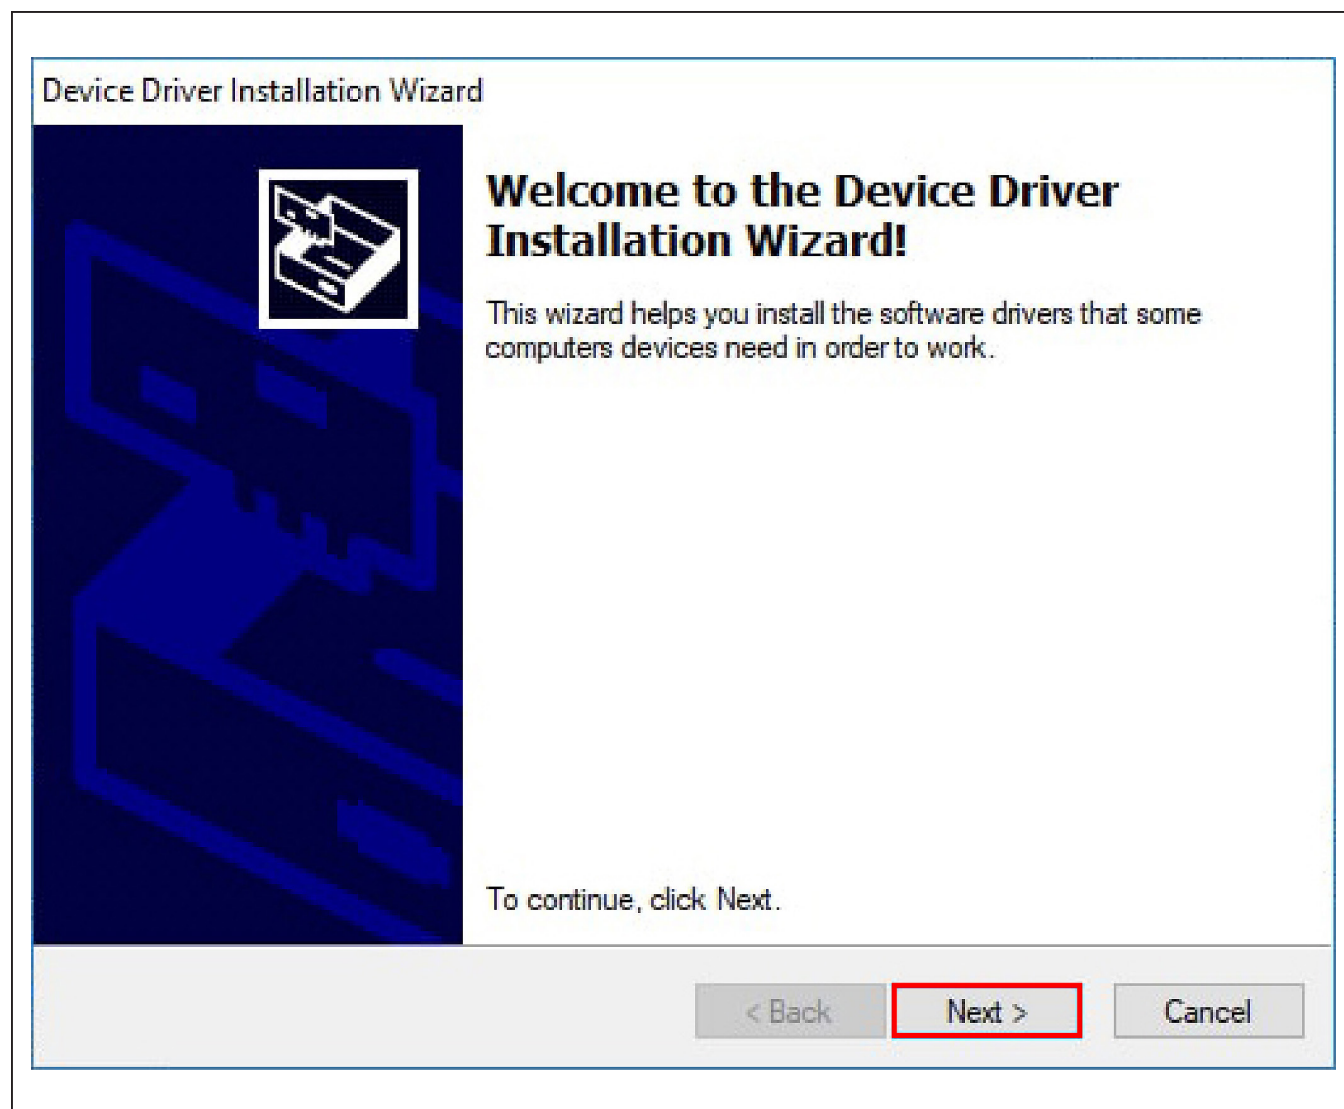

Figure 3. DS9481 Device Driver Installation Wizard
- c) Click **Next** on the Device Driver Installation Wizard window (Figure 3).